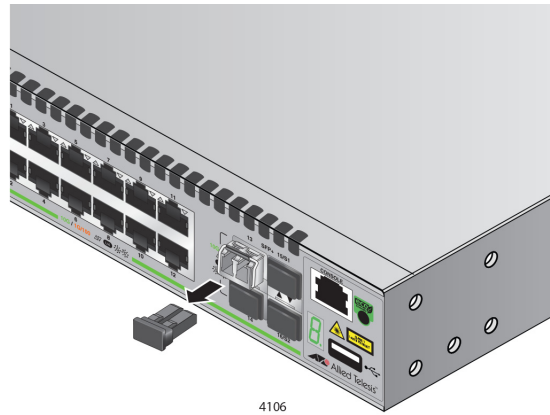

Figure 50. Removing the Dust Cover from an SFP Transceiver
5. Remove the dust cover from the transceiver, as shown in Figure 50.